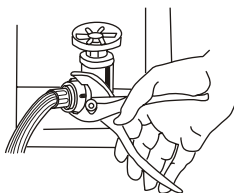
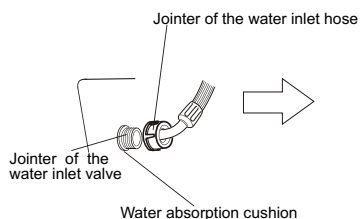

Figure 1
Figure 2
<p>Clean the detergent box and set it on the control panel seat.</p> <p>1.The method of dismantle:Push it up aslant and gently.</p> <p>2.The method of install : install it upwards and aslant and push it in .</p>  <p>Dismantle Install</p>	<ul style="list-style-type: none"> ● The lint filter must be used during washing. ● It must be cleaned in time after each using. <p>Lint filter:</p> <ol style="list-style-type: none"> 1.Push down the spring piece of the top lint filter to make the claws out of the filter cover, and then pull out the lint filter to get it down. (figure1) 2.Pull the back of the lint filter, and then you can get down it off the front cover of the lint filter. (figure2) 3.Sweep the rubbish in the lint filter. 4.Put the back of the lint filter into the front cover . 5.Put the lint filter into filter cover, and make it tight . 6.Make sure the lint filter well installed, or it can influence your use.  <p>Figure 1 Figure 2</p>
1. Attach the water inlet hoses to the water faucet. Using pliers, tighten the coupling. (As figure 1)
2. Connect the other ends to the water inlet valve. (As figure 2)